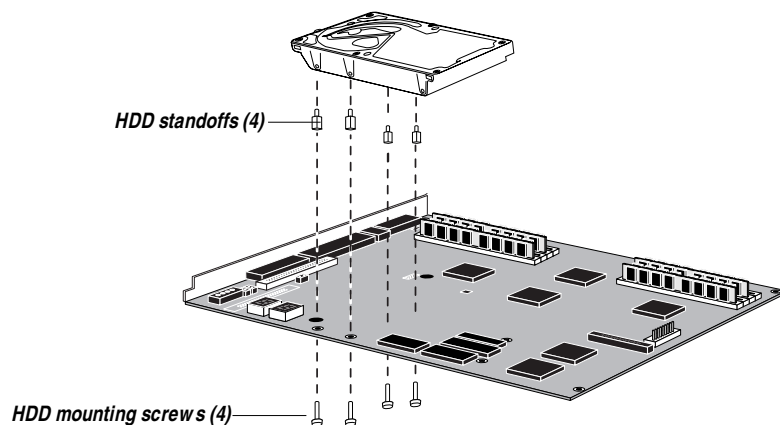

Figure 7-4 Installing the HDD
**6. Supporting the HDD against the Fiery XJ80e, align the four holes in the HDD with the holes in the board and secure it to the Fiery XJ80e board with the four screws (see Figure 7-4).**